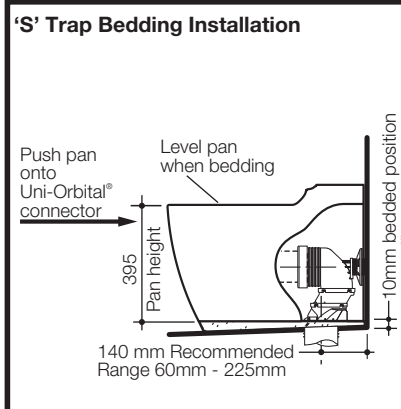

Fig. 4
- 5- Position and push pan into connector using the marked centre line on the wall as a guide and level pan into bedding mixture, so that the back of the foot of the pan is approximately 10mm above the finished floor as detailed in Fig. 4. It is recommended that wedges are used to support the foot of the pan during the positioning.